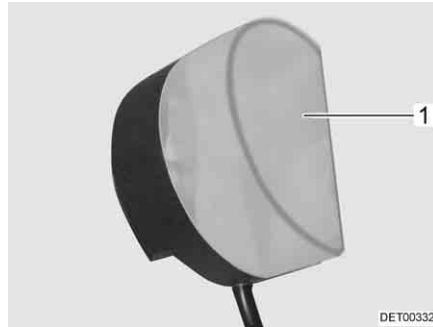

Fig. 246 Wardrobe light
- Press the light covering (Fig. 246,1) lightly together and remove it.